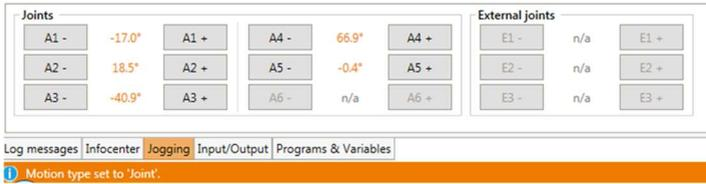

Figure 7.8 The software buttons for "Joint" movements in "Jogging" tab. In both cartesian modes, the buttons change to X, Y, Z, A, B and C.
- "Joint": A click on A1 to A6 moves the corresponding robot axis (if available). E1-E3 move the external joints. This could be a linear axis, rotational (Figure 7.8).